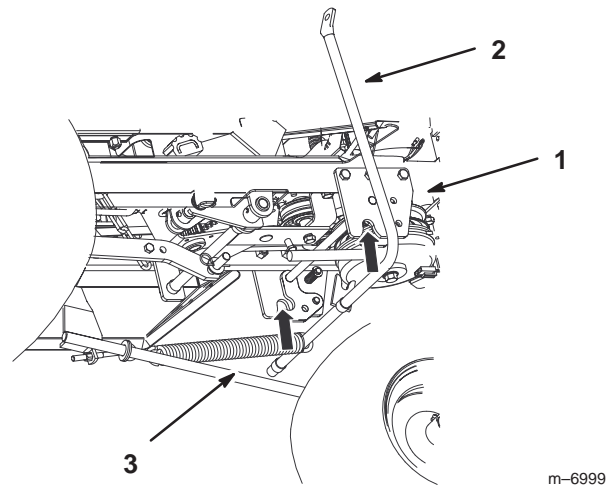

Figure 20
9. Install the chute control rod support into the mid-mount hitch (fig. 20).